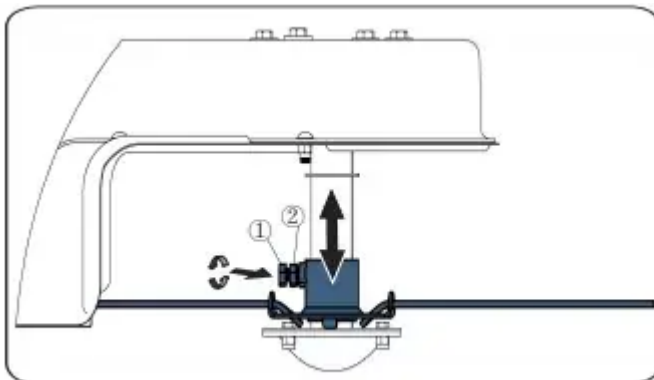

Figure 5-1
2. Slide the spindle upward or downward to the desired position before retightening the bolts ① and nut ② See Figure 5-1. (**Note: bolts must be tightened with the spindle when starting the equipment.**)